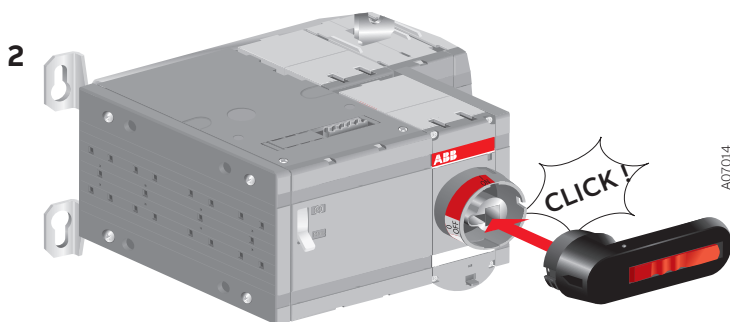

Figure 15.6 Attaching the handle
2. Attach the handle by pressing it to the disconnecter panel until it clicks into place, see Figure 15.6. You can attach the handle in both positions (I or O).